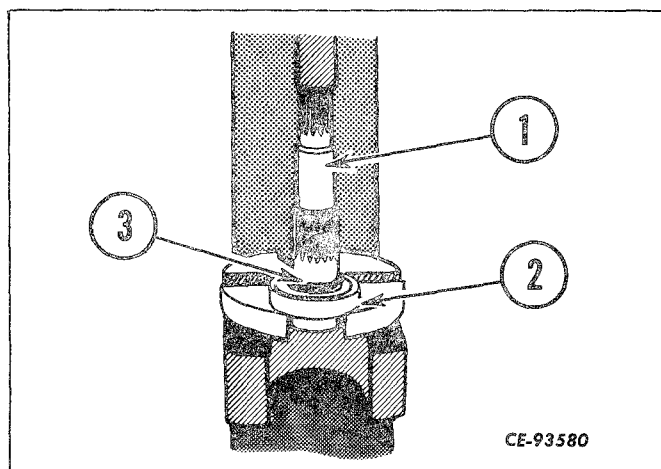

Figure 4-62
If the bearing (2, Fig. 4-62) was removed from the output shaft (1), press the bearing into the shaft until it seats against the retaining ring (3) on the shaft. Install remaining retaining ring.